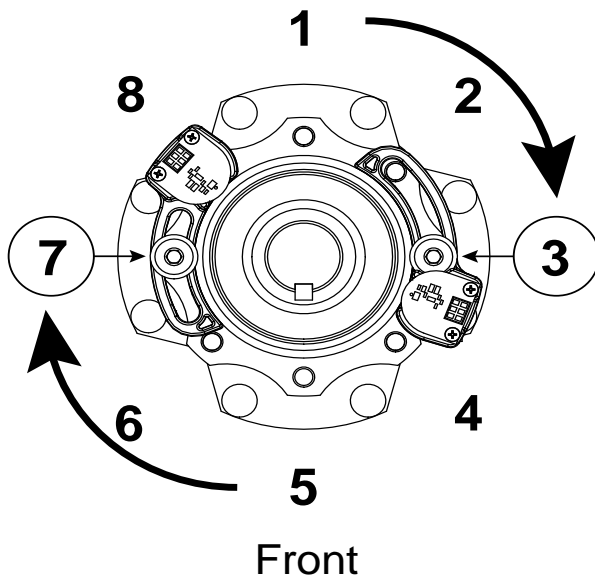

Figure 19. RIGHT-HAND Installation
1. Loosen the taper clamp bolt with the taper bolt wrench to allow the gate and arm assembly to rotate freely (Figure 19).